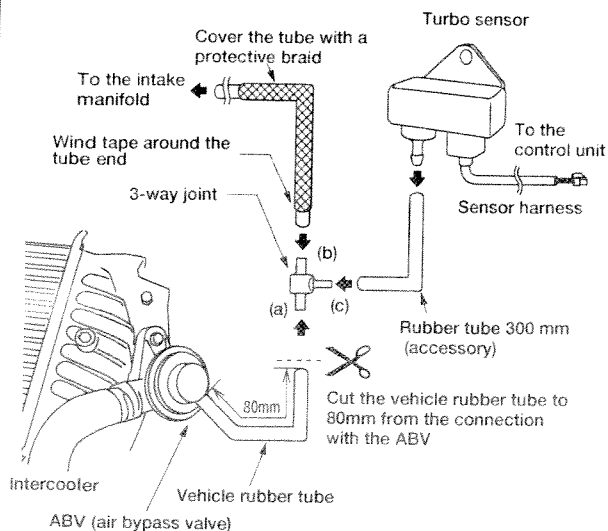

Figure 2-3
5. Cover the tube at the protective braid as shown in Figure 2-3. Then, connect the tube sections to ports (a) and (b) of the 3-way joint.